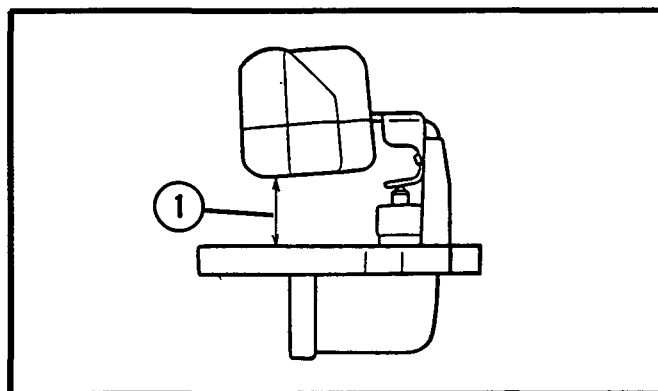

Figure 22.
1. Invert the float bowl assembly cover and allow the float to hang down by its own weight. The distance between the float and bowl cover should be 0.575 inch (14.6 mm). Adjust by bending the tab on the float. See Figure 22.